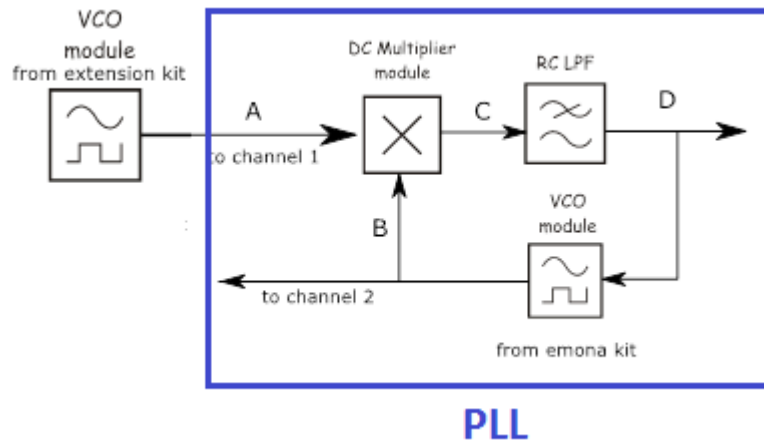

Figure 5- Connection Diagram for PLL locking Range Measurement
- b) Next, rig up the PLL circuit and connect the output of the VCO of the extension module to the input multiplier of the PLL. See Figure 5.